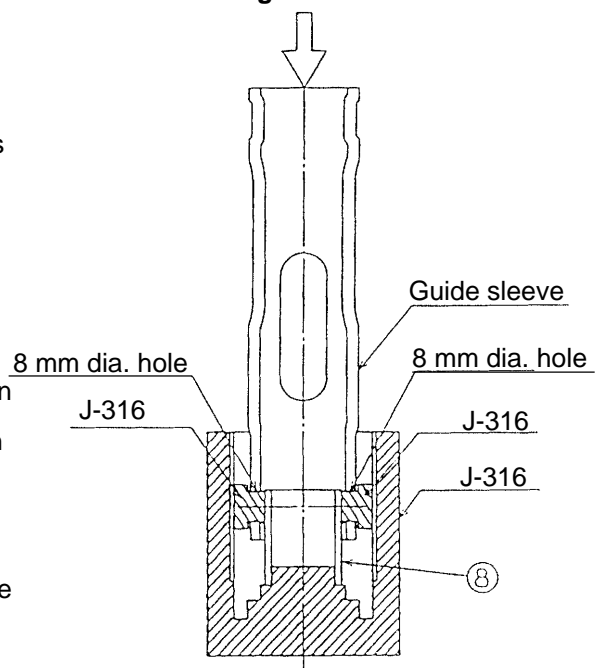

Fig. 14
(2) Press-fitting Metal (A) [8] into the guide sleeve (Fig. 14)
Insert Metal (A) [8] into the press-fitting portion of the guide sleeve so that the outer flat section of the metal can be seen from the 8 mm dia. hole of the guide sleeve. (An inspection hole is provided on one side of the metal.) Mount the two special repair tools J-316 in the 8 mm dia. hole as shown in Fig. 14. Push the guide sleeve in the direction shown by the arrow as far as it will go with a hand press.